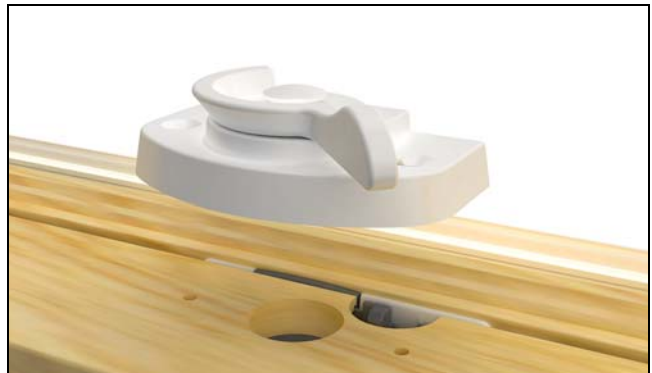

Figure 41
3. Lift the lock off of the sash, finish as desired. See Figure 41.